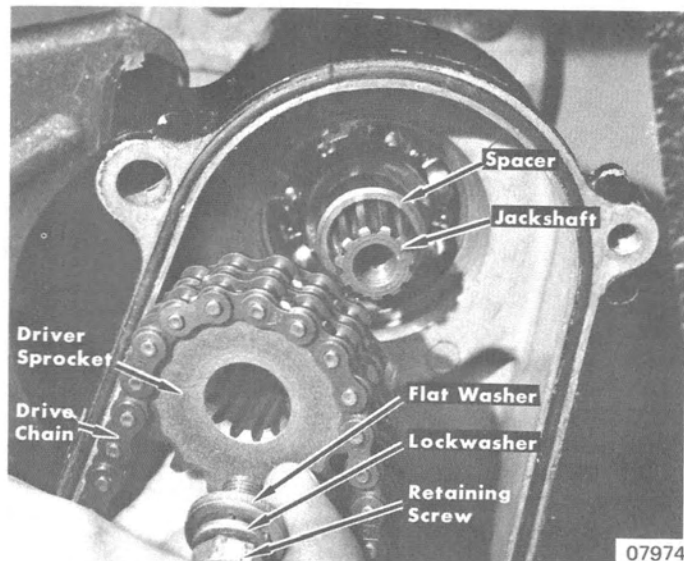

Figure 1. Chain and Driver Sprocket
5. Remove retaining screw from jackshaft. Remove driver sprocket (top) and drive chain. (Figure 1)
6. Remove spacer (Figure 1) and driven sheave key from jackshaft.